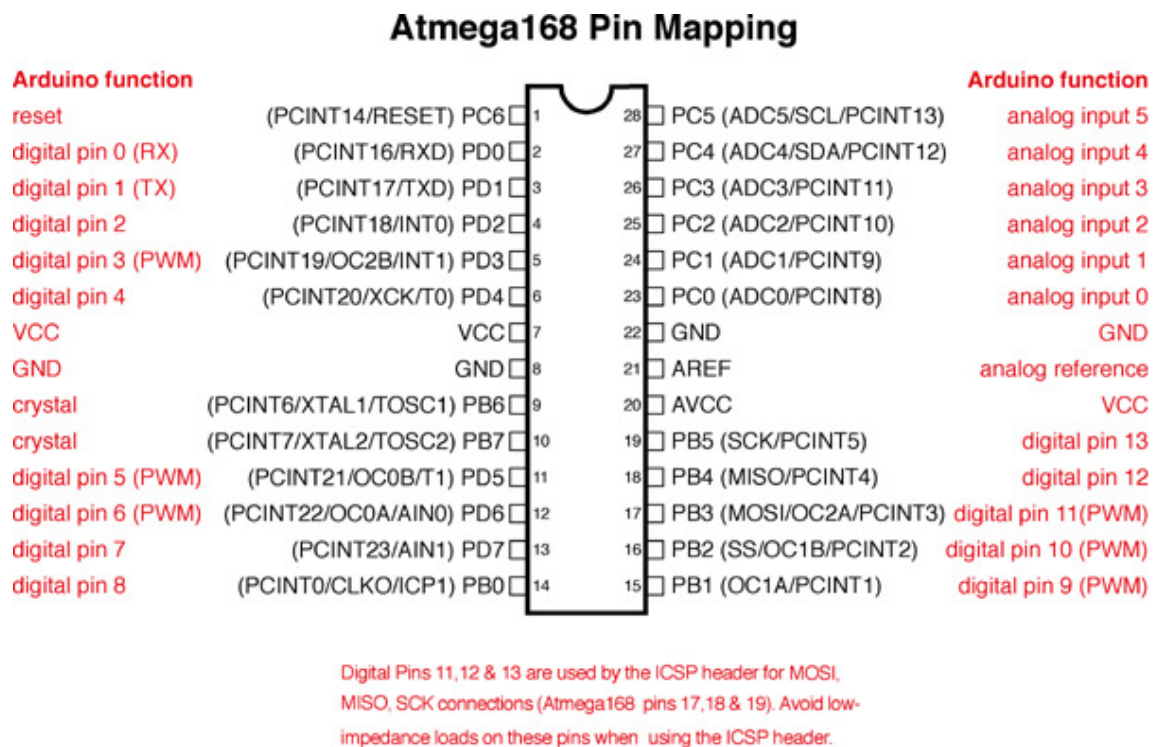

Figure 2:
2. Complete Table 2 for all the digital pins using Fig. 2.